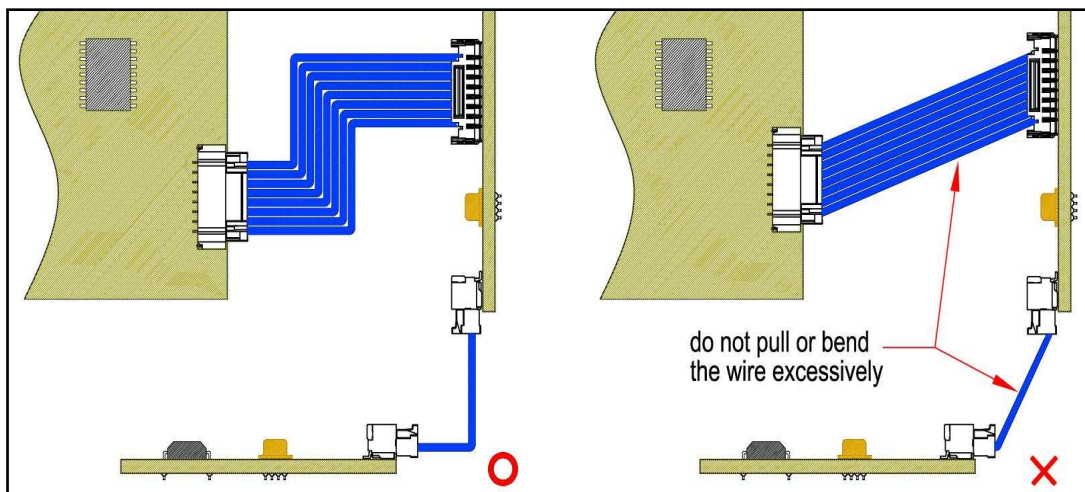

figure 5.1
5.1 Conduct wire handling carefully so that tension stemmed from wire bending is not loaded. Provide space above connector in order to form wire by bending and do not apply tension to connector as below. (see figure 5.1)